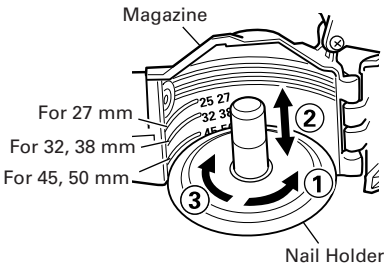

Fig. 3
For adjustment, turn the nail holder ① counterclockwise about 90 degrees. Move the nail holder ② up and down, adjust to the length of a nail to be used, and adjust the surface of the nail holder to the marked position of the magazine. Turn the nail holder ③ clockwise (about 90 degrees) until it goes click. (Fig. 3)